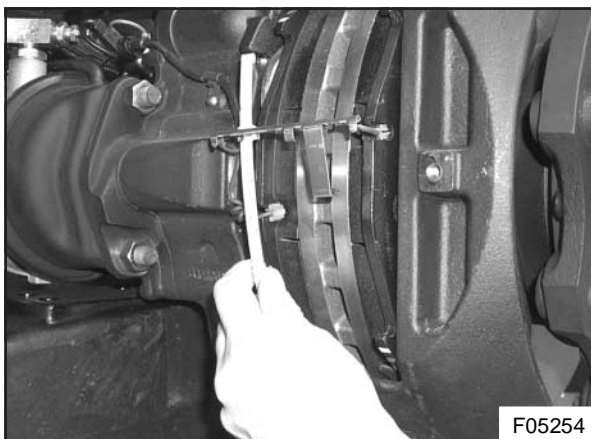

Figure 30 : Brake pad spring removal
5. Remove and discard the brake pad springs (see Figure 30).